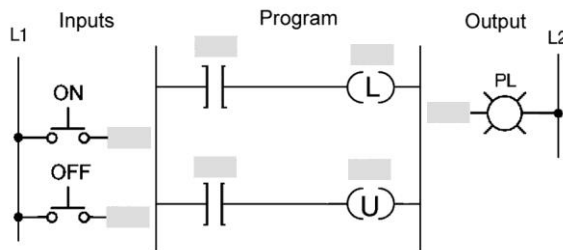

Figure 6-20 Program for question 43.
43. For the programmed latching operation shown in Figure 6-20, which 43. _____ two instructions must have the same address?